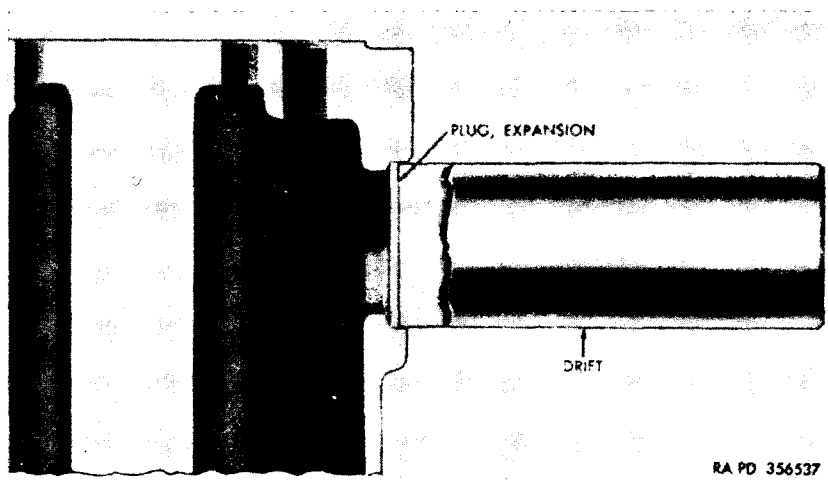

Figure 45. Installing expansion plug.
- (5) *Honing cylinder bores.* To remove light scoring, scuffing, or scratches from the cylinder walls, a cylinder hone can be used with good results. Usually one or two passes will clean up a cylinder bore and maintain required limits. **After using a hone, make sure that all trace of abrasive is cleaned from the engine.**
- (6) *Install expansion plugs (fig. 45).* Before installing a new expansion plug, clean the plug seat and remove any sharp edges or irregularities from the plug. Coat counterbore with plastic type gasket cement and install plug with curved face to the outside. Then, expand the plug in the counterbore with a blunt drift approximately the same diameter as the plug and a hammer, until it is firmly seated.